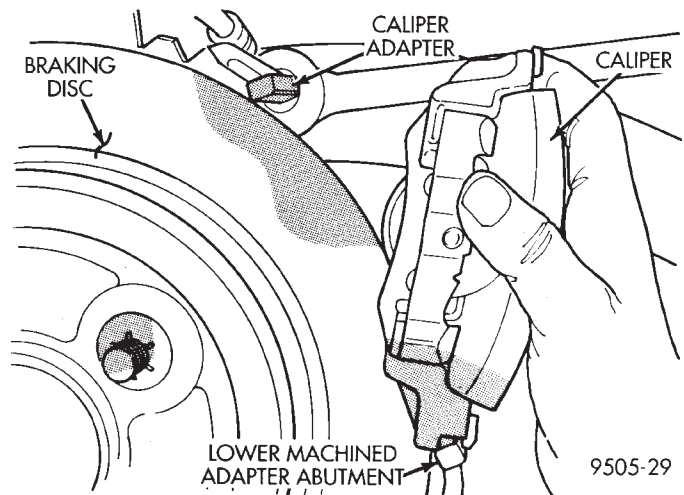

Fig. 98 Caliper Removal/Installation
(4) Remove caliper from adapter and rotor by first rotating the top of the caliper away from adapter, and then lifting the caliper off the lower machined abutment on adapter (Fig. 98).
(7) Carefully lower caliper and brake shoes over rotor reversing the required removal procedure (Fig. 98). Make sure that caliper guide pin bolts, bushings and sleeves are clear of the adapter bosses.